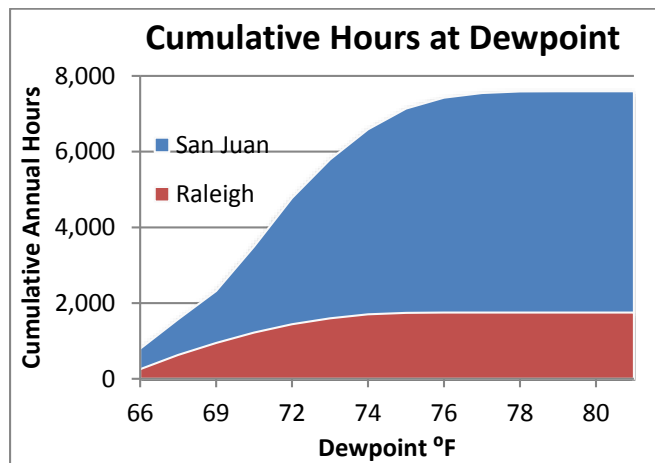

Figure 3
2. The higher tropical hours at all the higher ambient moisture levels, as shown in Figure 3.